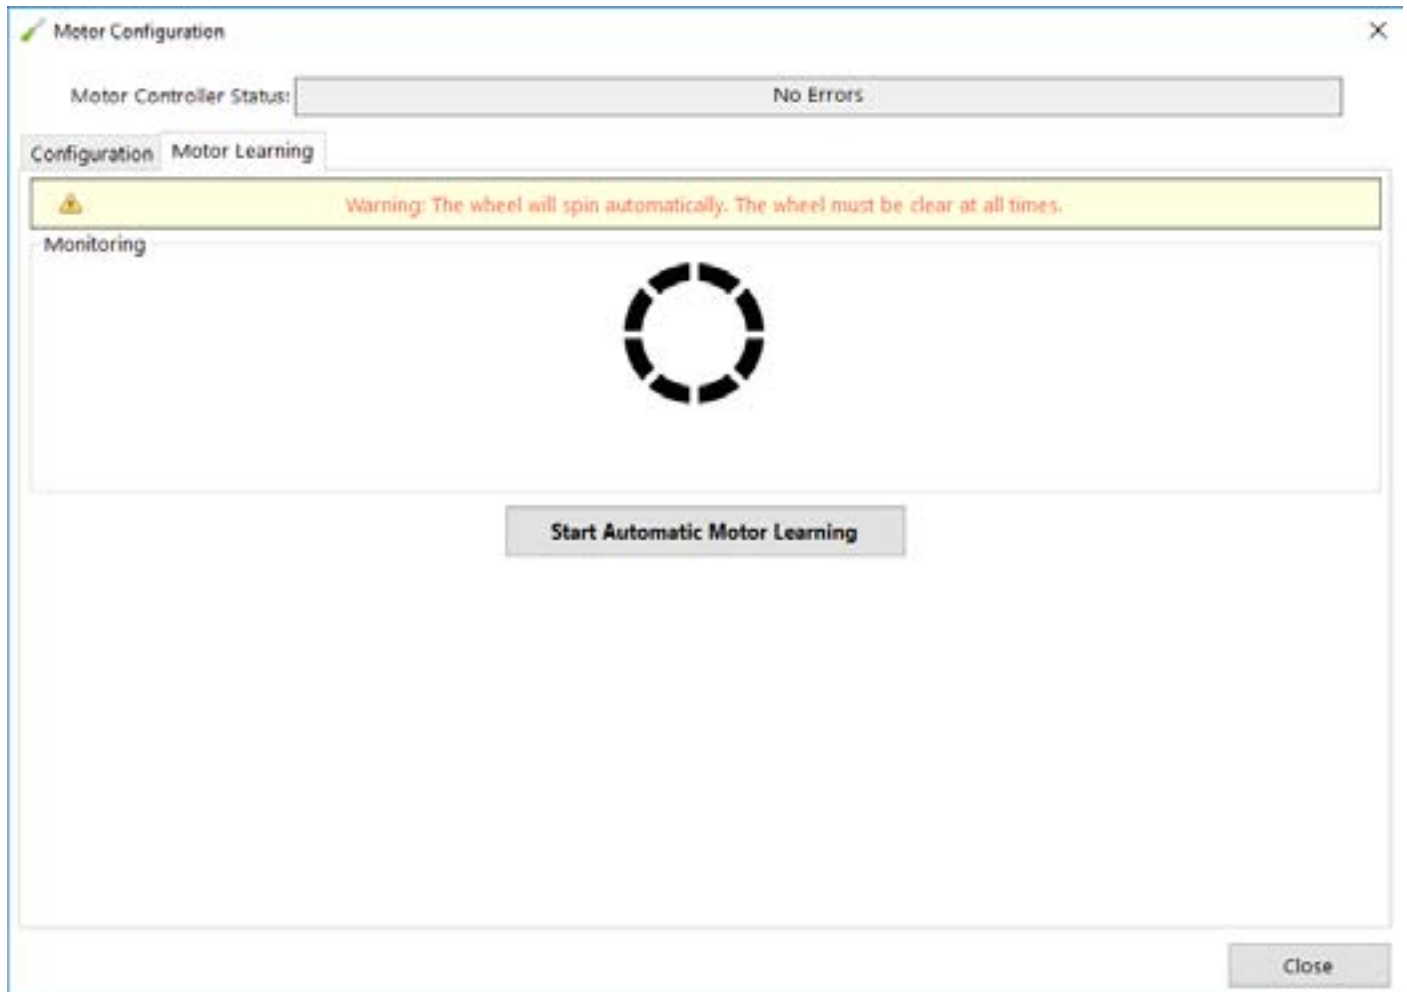

Figure 3.42 Motor learning – Starting
1. Place the bike in the stand and check to ensure the wheels are free to turn, and then click on “Start Automatic Motor Learning” (Fig. 3.42).